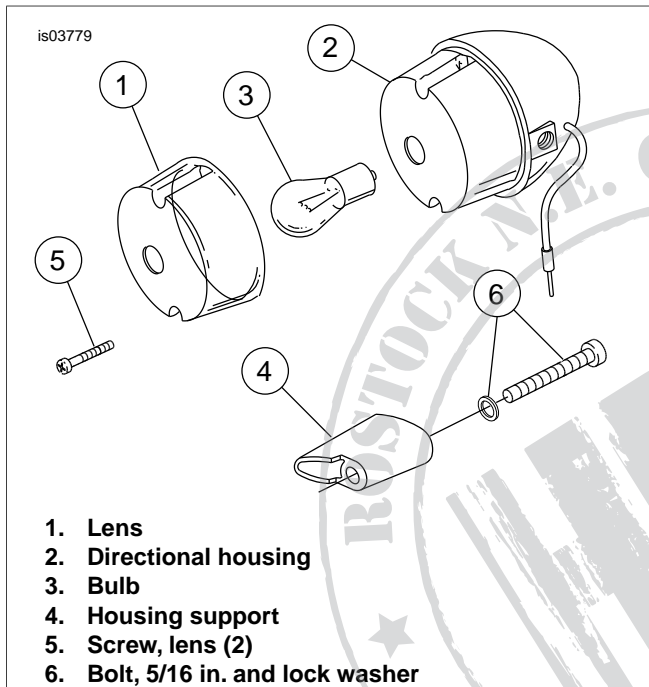

Figure 1. Remove Stock Stalk
3. See Figure 1. Remove lens (1) from rear turn signal housing (2). Remove bulb (3) from directional housing socket.
5. **For 1996-1998 models:** Cut wires within turn signal housing about 3 in. away from point where wires connect to the bottom of the bulb socket. From underside of fender, withdraw end of wires that are within turn signal housing support (Figure 1, Item 4) into the inner fender area.
6. See Figure 1. Remove and discard 5/16 in. bolt and lock washer (6) securing rear turn signal to fender. Bolt and washer are located on inside of fender.